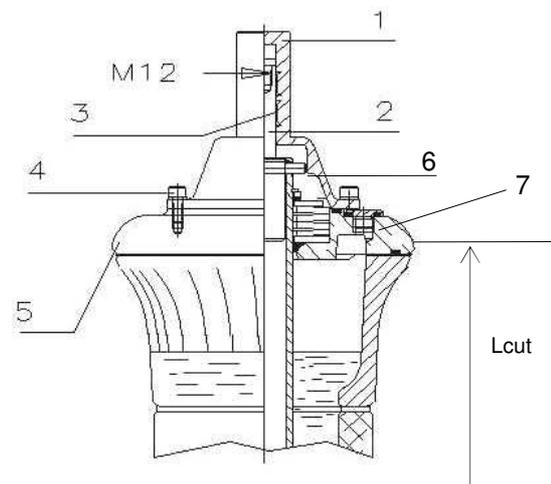
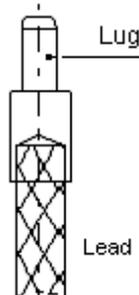

Fig. 11
Fig. 12
In this type of execution, the current in the bushing is carried out directly by the lead coming from the transformer's winding, up to the lug placed in the upper part of the bushing (fig. 11 and fig. 12).
Carry out the assembly as follows, making reference to fig. 11 and fig. 12:
- Remove the locking pin (6) from the lug hole.
- Remove the copper lug (2) from the central tube of the bushing;
- Make a hole, in the lug (fig. 12), having diameter at least 2 mm higher than that of the connection and max. 2 mm lower than that of the lug;
- Fix a thread to the lug, using the M12 hole (fig. 11);
- Align the hole in the lug with the hole in the central tube and secure the lug in position by reinstalling the locking pin (6);
- Insert the HV terminal (1) on the lug, keeping the terminal well centered on the axis of the bushing. The necessary force is small (about 10 kg) because the multicontact blades, located inside the terminal, press softly on the smooth surface of the lug. The top terminal cap will hold the pin in place. Tighten the screws by a moment of 13 Nm. The gasket placed between the two pieces, assures the transformer oil tightness and for this reason it is necessary to block the terminal before filling the transformer with oil. The gasket which is necessary to assure the tightness between the oil of the bushing and the oil of the transformer is not involved in this assembly. The external line connector to the HV terminal must be of compatible material. Clean well the terminal and apply a specific grease for electrical contact and then assembly the connector to the HV terminal.
Furthermore, lift a little the HV terminal (fig. 11 item 1) in order to allow the air to go out and complete the filling of the transformer and of the lower part of the inner tube of the bushing.